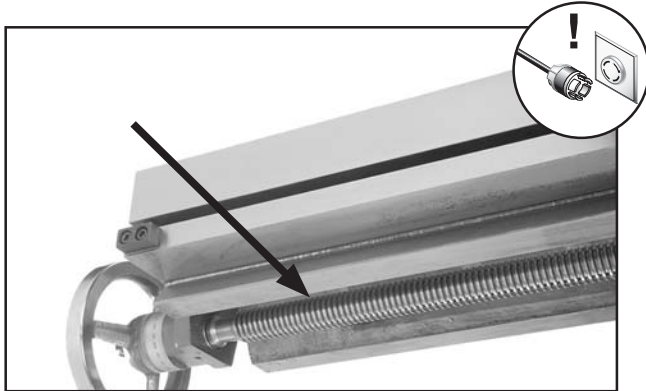

Figure 72. X-axis lead screw (shown from underneath the left side of table).
2. Refer to **Figures 72–73** to identify X and Y-axis lead screws.